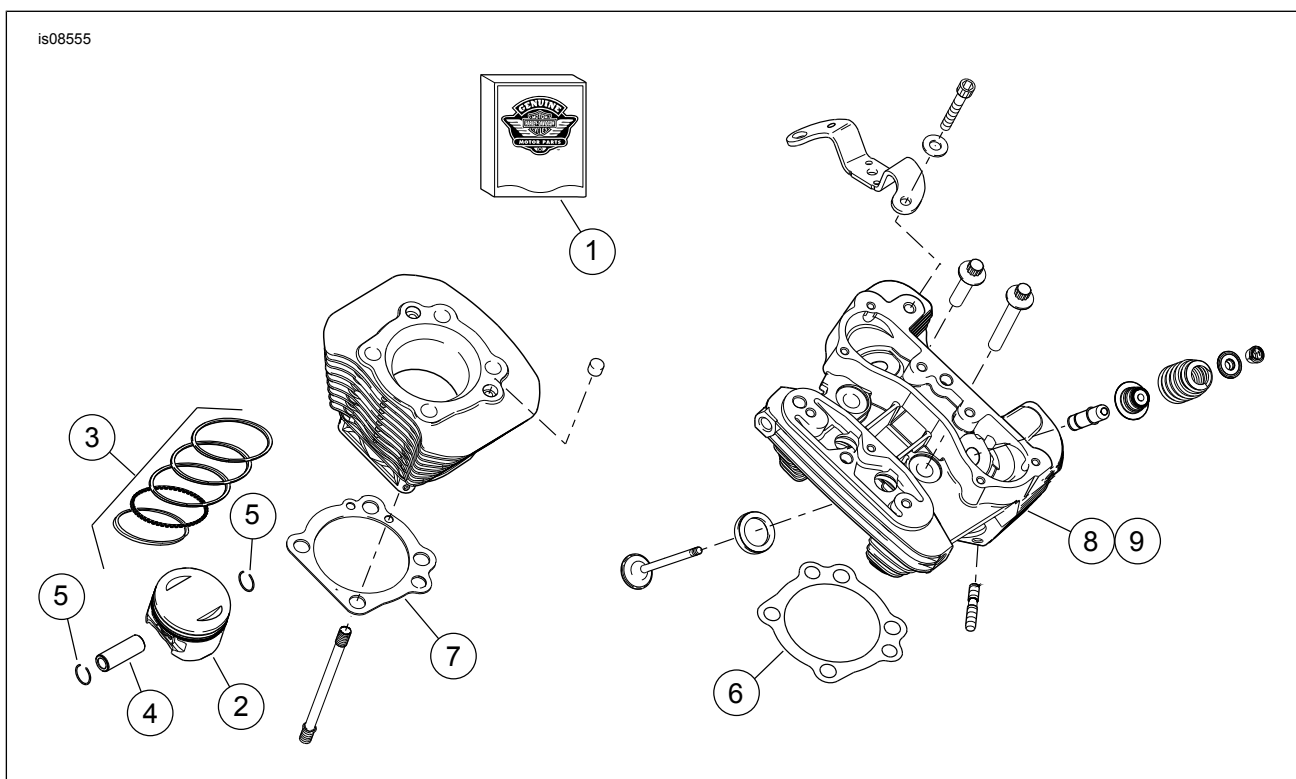

Figure 1. Service Parts: Screamin' Eagle Pro XL 1200 cc Stage 4 Kit
See Figure 1 to Figure 3, and Table 1 to Table 3.
2. See Figure 1 through Figure 3. Assemble cams, performance cylinder heads and engine top end using parts from kit. Refer to appropriate ENGINE sections in service manual and instructions in sub kits.